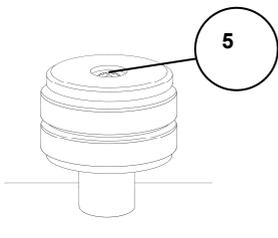

Figure 3: Torque limiter screw showing torx screw fixing
The Thermo Electron Smart Golden Gate MKII Single Reflection ATR top plates are provided with a special built in torque limiter screw (4). When the torque limiter screw (4) is turned clockwise it will provide a maximum load of 80lbs (spread over the area of the anvil face) to the sample. After this load has been achieved the screw rotates without increasing the load. This means that there is no need to use a torque wrench for routine sampling. However, a torque wrench with torx head adaptor (10504 and 10505 respectively) can be supplied separately to provide loads up to 160lbs, using the torx head screw fixing (5) (See Fig 3).